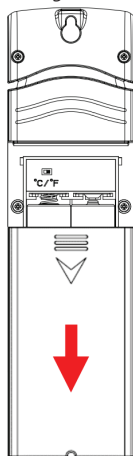

Figure 4
- After inserting the batteries, the remote sensor will display temperature, humidity and barometric pressure on the display (Figure 4).